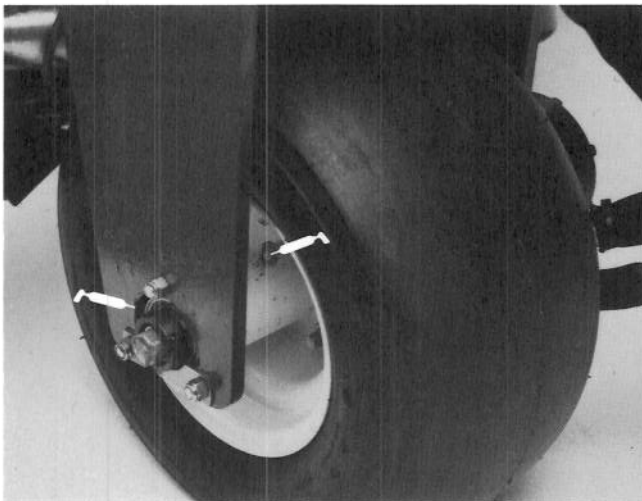
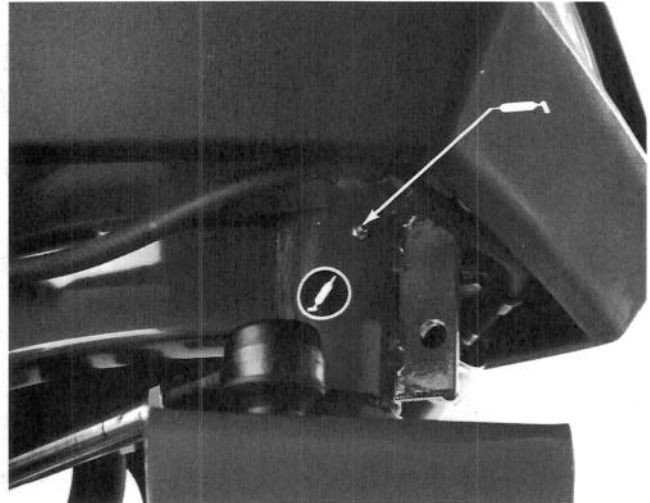

Figure 23
Figure 24
The traction unit bearings and bushings that must be lubricated are: Rear wheel roller clutches and external ball bearing (1) (Fig. 23), Steering fork shaft (1) (Fig. 24), Lift arm pivot (3), Pivot hinge (3) (Fig. 25), Pull frame shaft and roller (12) (Fig. 26), Power steering cylinder (1) (Fig. 27), Mow lift pivot (1) (Fig. 28) and Lift cylinders (3) (Fig. 29).